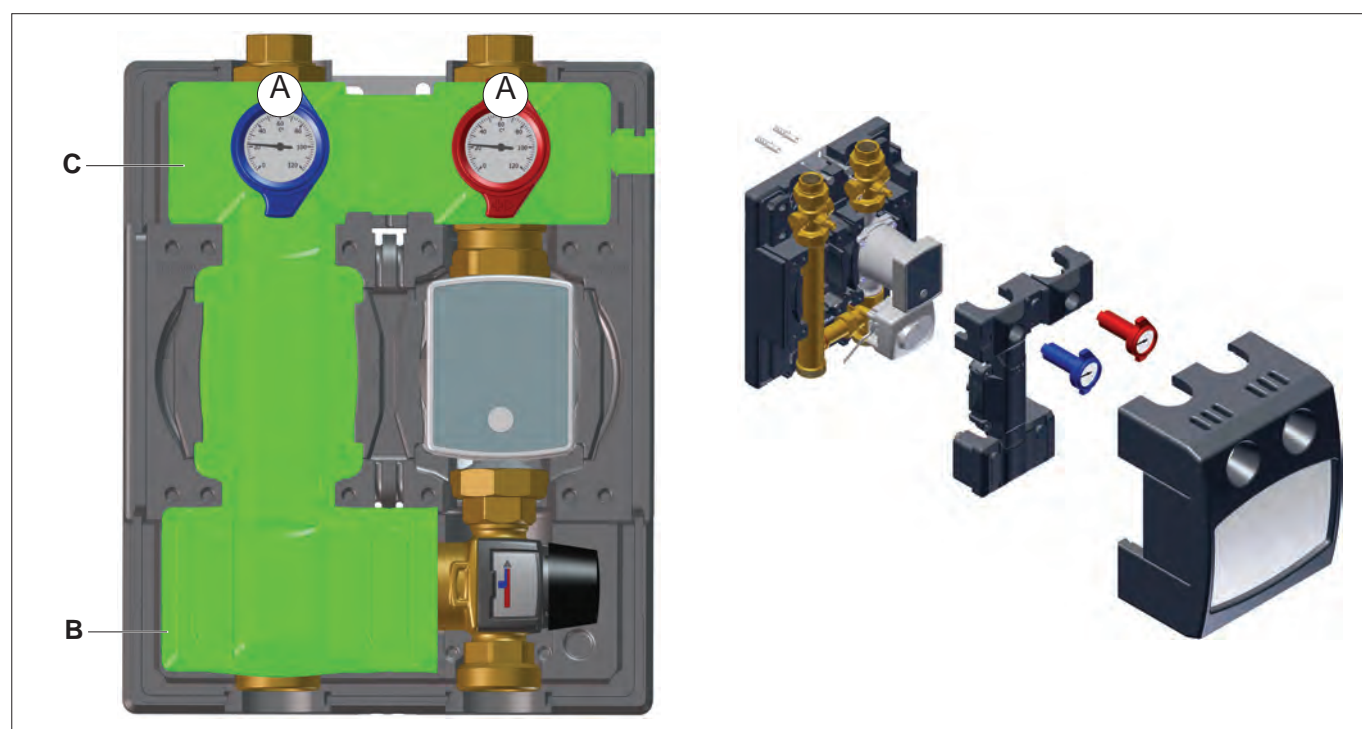

Fig. 7: Dismantling the insulation
- Dismantle the lower insulation (see pos. B, Fig. 7 on page 13).